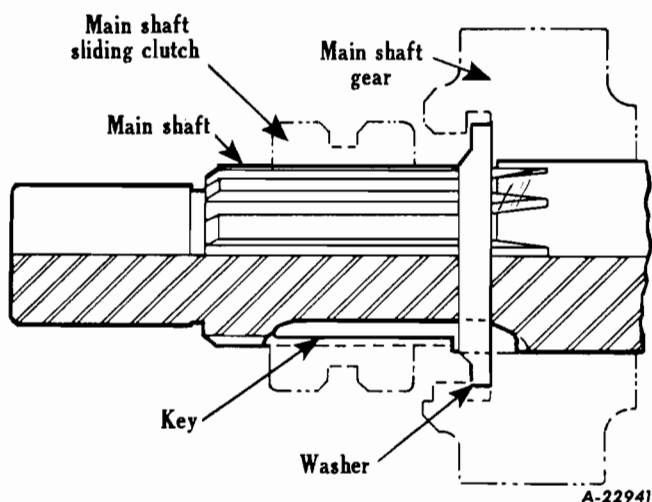

Fig. 4
- (b) Remove fifth speed gear key (48) from groove in mainshaft (30). Rotate fifth
speed gear washer (47) on mainshaft to index lugs with splines of shaft and then remove (Figure 4). Slide mainshaft fifth speed gear (20) sleeve (19) and washer (21) from shaft.
- (a) Remove peened over material from slots in main drive gear and turn off drive gear bearing nut (2). NOTE: Nut is left-hand threaded. Press bearing (58) from main drive gear (1).
- (a) Remove peened over material from slots and remove countershaft rear bearing nut (42) from countershaft (44).
- (b) Remove capscrew and lockwasher from reverse idler shaft lock plate and remove from slot in idler shaft (25). Drive idler shaft (25) toward rear of case and lift idler gear (24) and roller bearings (23) from case.
- (c) Drive countershaft assembly (44) toward rear of case sufficiently to expose rear bearing (41), attach puller, and remove rear bearing from countershaft. Lift countershaft assembly through top of case, lifting front end upward and tilting assembly. Also remove front bearing thrust (53). The countershaft front bearing is disassembled by removing snap ring (56) from groove and drive retainer (55) from case. The countershaft front bearing (54) may now be removed from case.
- (d) To disassemble the countershaft assembly, remove snap ring (52) from countershaft. Using adapter plates, press countershaft drive gear (49) spacer (50) fifth speed gear (46) and third speed gear (45) from countershaft (44) and remove gear keys (51).